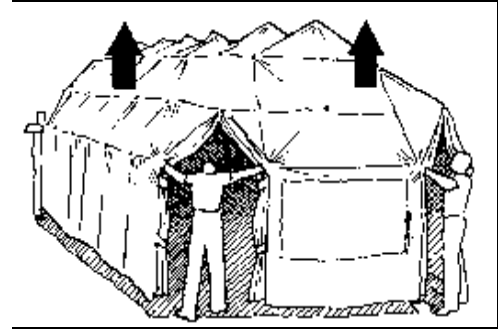

Figure 2-9 - Shelter in Erected Position
8. The Shelter should be properly positioned on the ground cover when fully erect as shown in Figure 2-9.